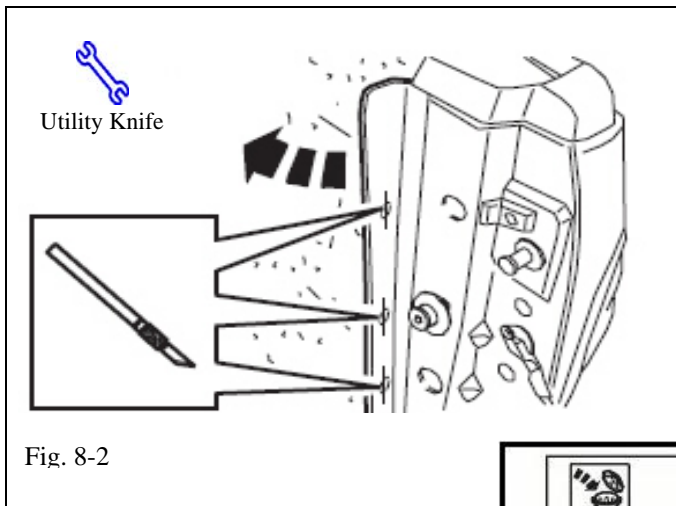

Fig. 8-2
- NOTE:** If using the BedRug in conjunction with a bed extender, cut the slits (located on back of part) of the D-pillar area to allow access to attachment holes. (Fig 8-2)